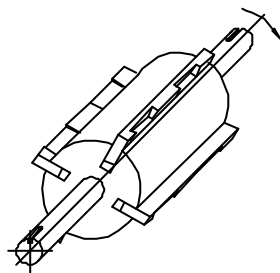

Figure 7
9. Fit two vane pushrods and four vanes to rotor as follows: THE HYDRAULIC RELIEF SLOTS IN VANE MUST LEAD THE DIRECTION OF ROTATION AND THE VANE PLATES MUST FACE THE PUSHRODS. (Refer Fig. 7)
The Ebsray Model V15 pump has its direction of rotation handed upon assembly (either clockwise or anti-clockwise when looking at the shaft from the shaft end which is the drive end). Figure 7 shows the flow path of the liquid and the orientation of the bypass valve for the different configurations.